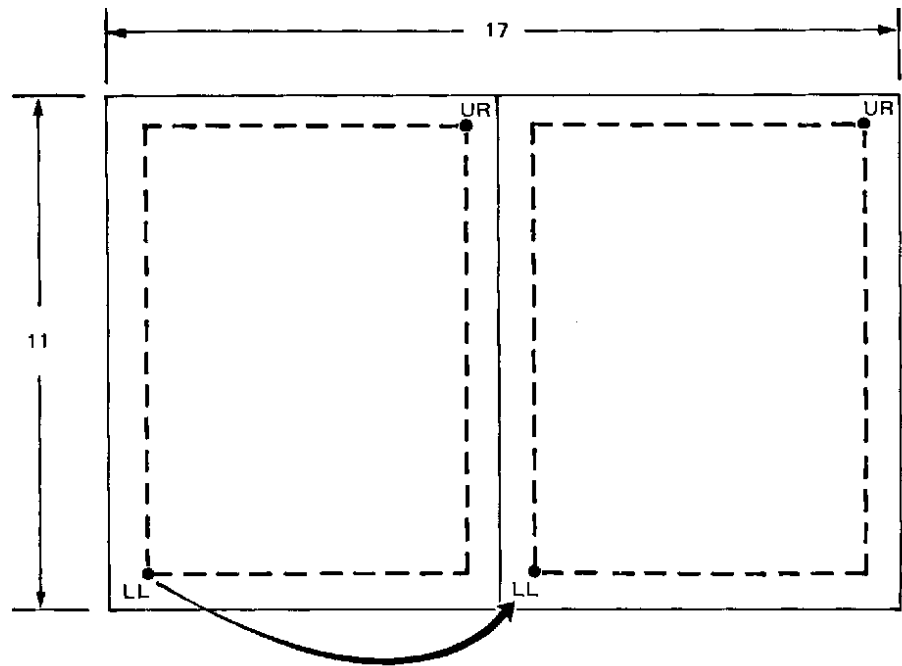

Figure 2-9. Plotter Paging
The upper right limit moves proportionately when the lower limit is changed. This feature can be used advantageously in applications such as paging (preparing two equal-size pages on the normal 11 in. x 17 in. sheet paper). Figure 2-9 illustrates this function. The lower left (LL) and upper right (UR) graphic limits are established for the left-hand page using the procedures previously listed. When plotting is completed on the left-hand page, the new LL limit is selected for the right-hand page. The UR limit moves proportionately and automatically establishes the upper right limit for the second page.